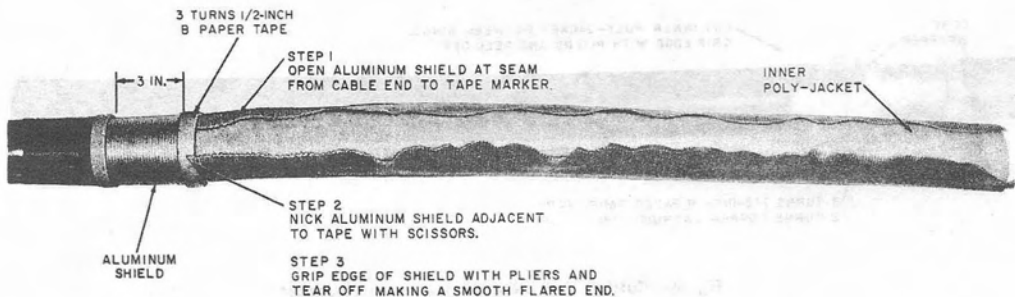

Fig. 9—Cutting and Removing Aluminum Shield on PAP Sheath
4.02 On *PAP sheath* cable place a collar of three turns of 1/2-inch B Paper Tape around the aluminum shield three inches from the sheath opening marker toward the cable end. Open and remove the aluminum shield as shown in Fig. 9. On *PASP sheath* cable clean at least three inches of the steel terne plate adjacent to the paper tape marker with B Cleaning Fluid and a clean rag.